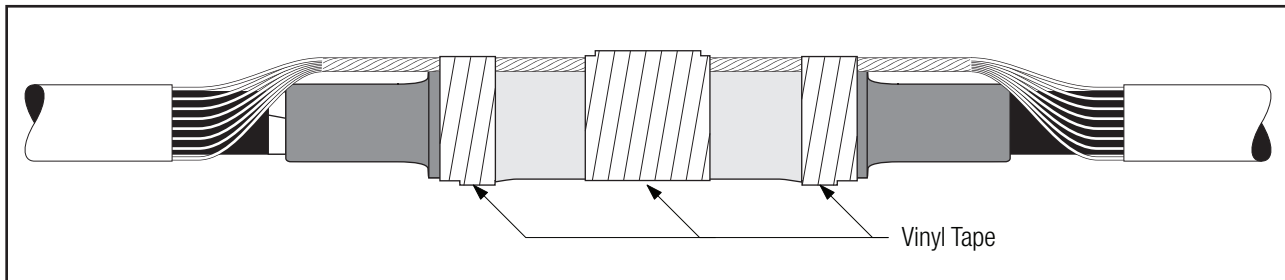

Figure 18
5.1.2 Apply two wraps of vinyl tape around each end of the neutral pad and over the connector (Figure 18).